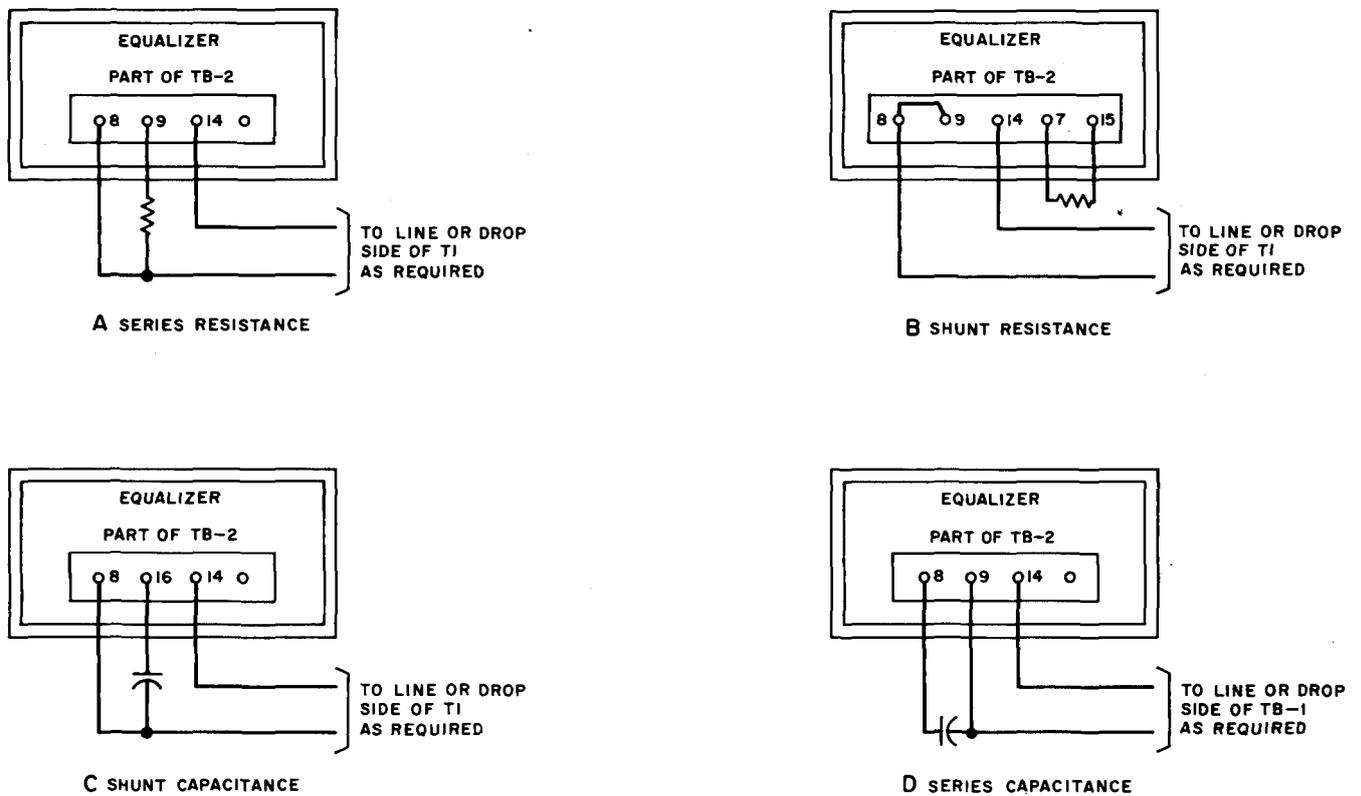

Fig. 4—External Component Connections
**6.01** Normally the procedures in Charts 3 and 4 will yield very satisfactory equalization of unloaded line. In some cases, however, equalization may become difficult to achieve and may become especially difficult on long lengths of line made up of mixed gauges or when several equalizers are being used in tandem. For these more difficult cases, it may be necessary to use external resistors or capacitors to achieve satisfactory equalization. These components may be connected directly to the terminals provided on TB-2 as shown in Fig. 4. The values of these components are dependent upon the particular line being equalized and can only be determined experimentally. The explanations in the following paragraphs should prove useful in determining component values.